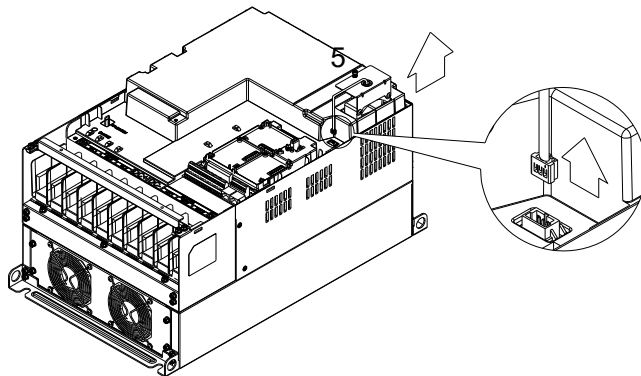

Figure 3
3. Loosen screw 5 (figure 3) and disconnect fan power and pull out the fan. (As shown in the enlarged picture 3) Screw 5 Torque: 10–12 kg-cm / (8.6–10.4 lb-in.) / (1.0–1.2 Nm)